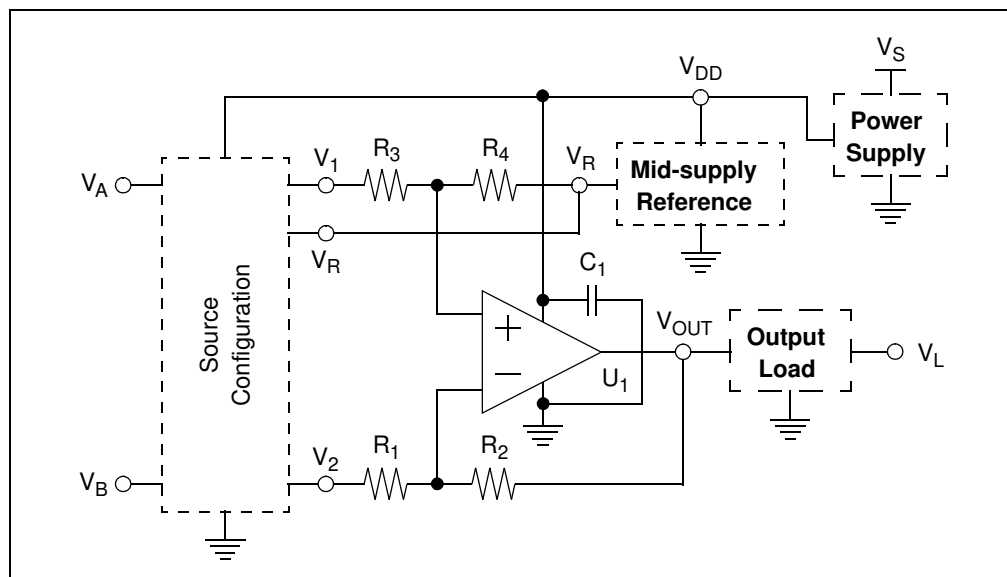

FIGURE 2-6: Difference Amplifier Circuit Diagram.
- The Mindi™ Amplifier Designer gives design recommendations for the difference amplifier circuit; see the circuit diagram shown in Figure 2-6